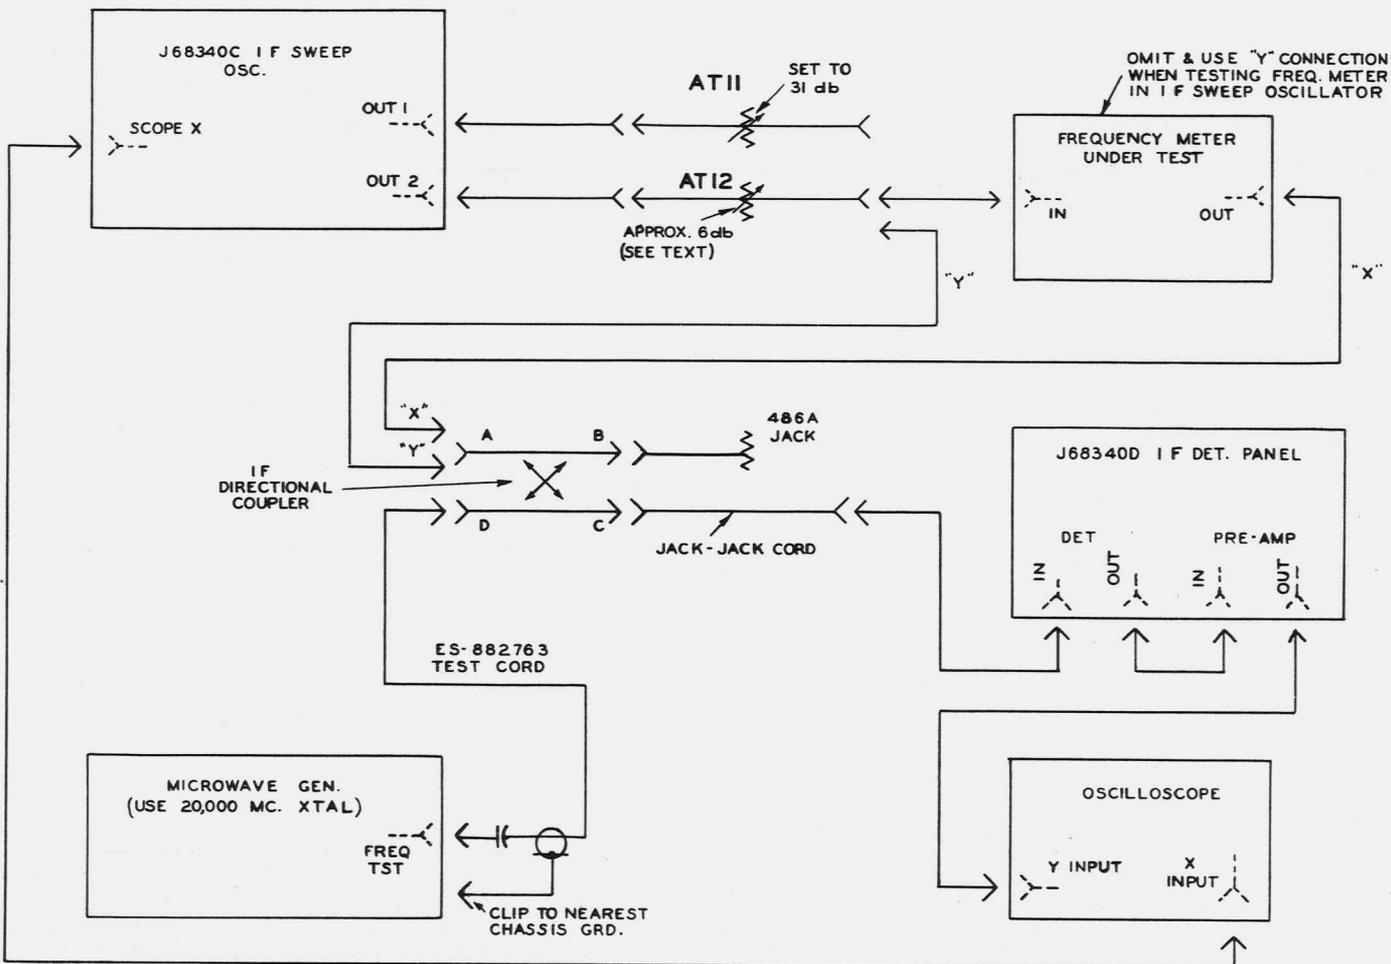

Fig. 13 - Circuit to Calibrate IF Frequency Meters
(7) Set up remainder of test circuit as in Fig. 13. If the frequency meter to be calibrated is in the IF sweep oscillator, use the "y" connection. Otherwise use the "X" connection. Repeat the adjustment of (5) above.